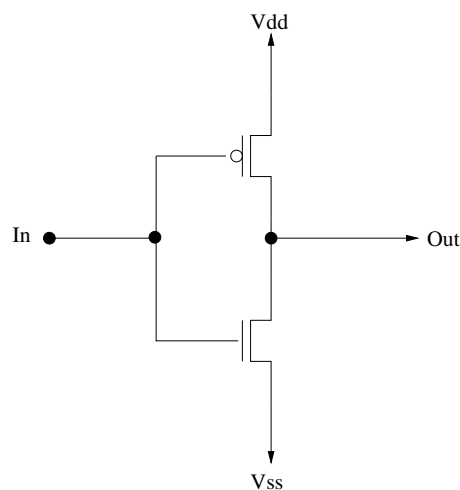

Figure 1: transistors diagram of a C-MOS inverter
- draw the inverter "stick-diagram" inv\_x1 whose transistors diagram is represented on the figure 1.